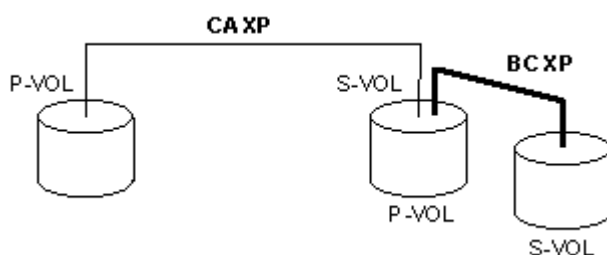

Figure 285 Shared CA S-VOL and shared BC P-VOL
- **Figure 285** shows an example of a CA S-VOL that also functions as a BC P-VOL. With this configuration, use BC to provide multiple backup copies of a single CA P-VOL.